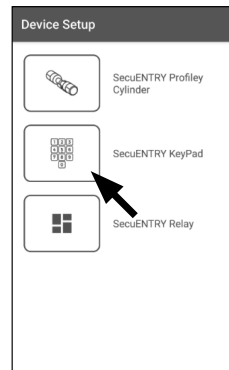

Fig. 18
④ Use the selection menu displayed and tap on "secuENTRY KeyPad" to display setup secuENTRY keypads (Fig. 18).